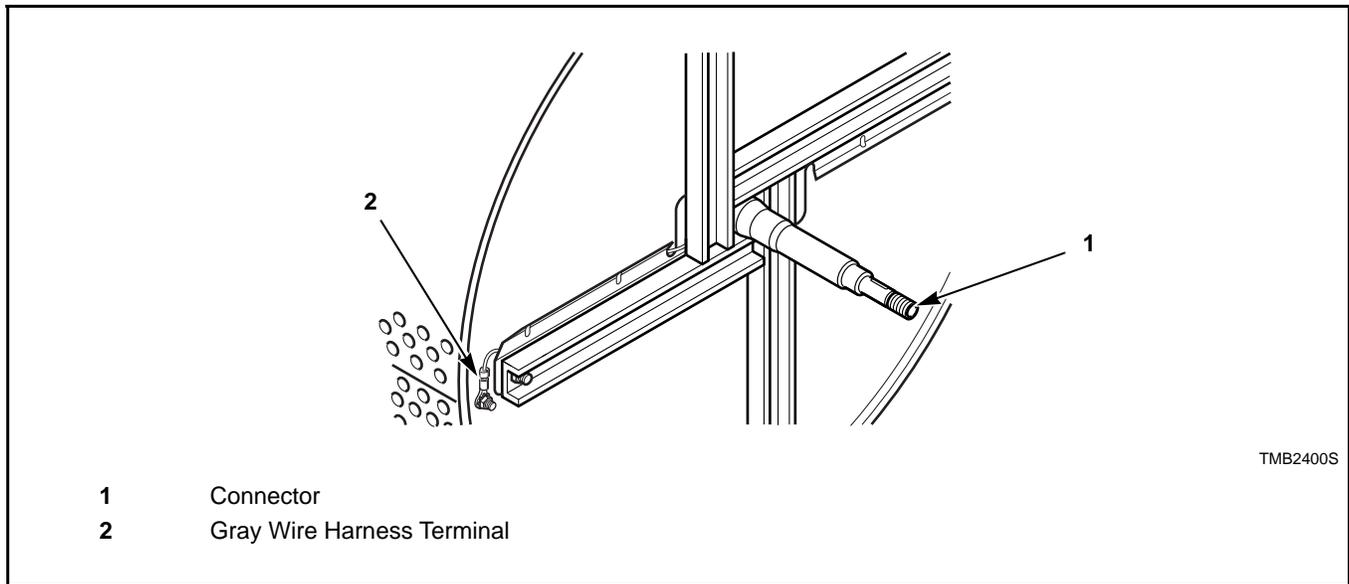

Figure 13
3. Connect one ohm meter probe to the connector in the basket shaft (Refer to *Figure 13*).